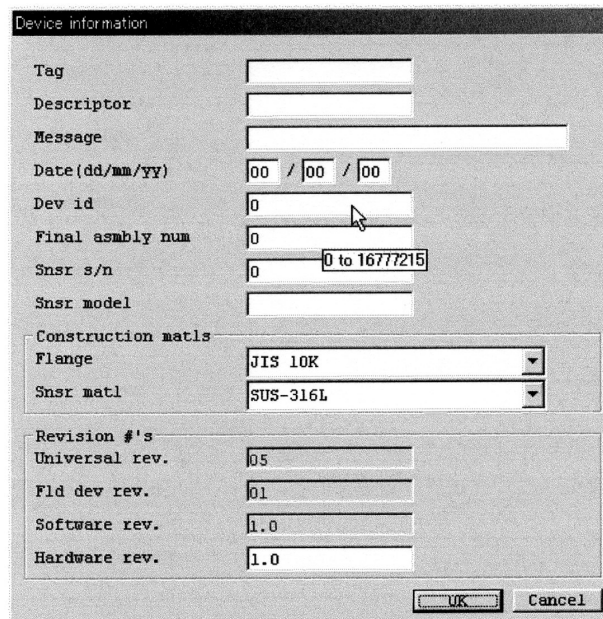

Fig.68
- ③ You are to set up individual items. For items with an arrow mark at right, click on the arrow mark at right and select one desired from the drop-down list; for other items, key in appropriate alphanumeric values directly.
- ④ For items to be directly entered, move the cursor to the field desired and a guide for keying in appropriate settings will appear as shown in Fig. 68.